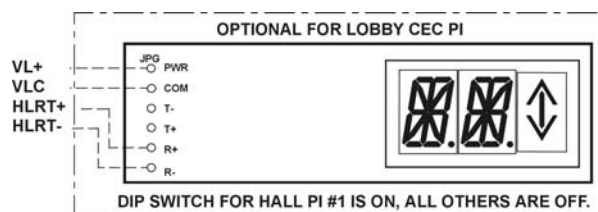

Figure 1-31
- Connect the other end of the cable to the Hall P.I. verifying that the connections correspond to their connections in the hoistway. [See Figure 1-31.]